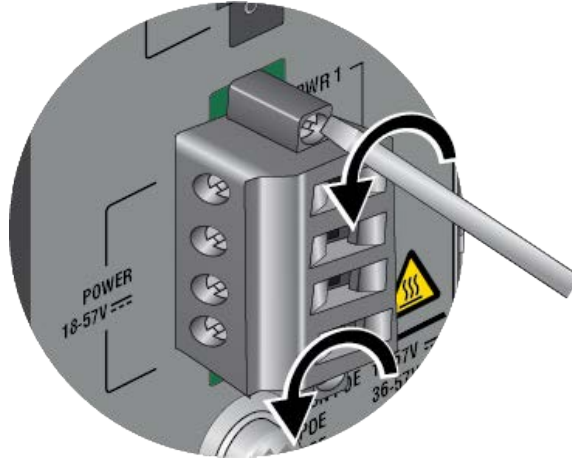

Figure 64. Loosening the Two Captive Screws on the POWER Plug
- Loosen the two captive screws on the POWER plug with a #1 flat-head screwdriver. Refer to Figure 64.